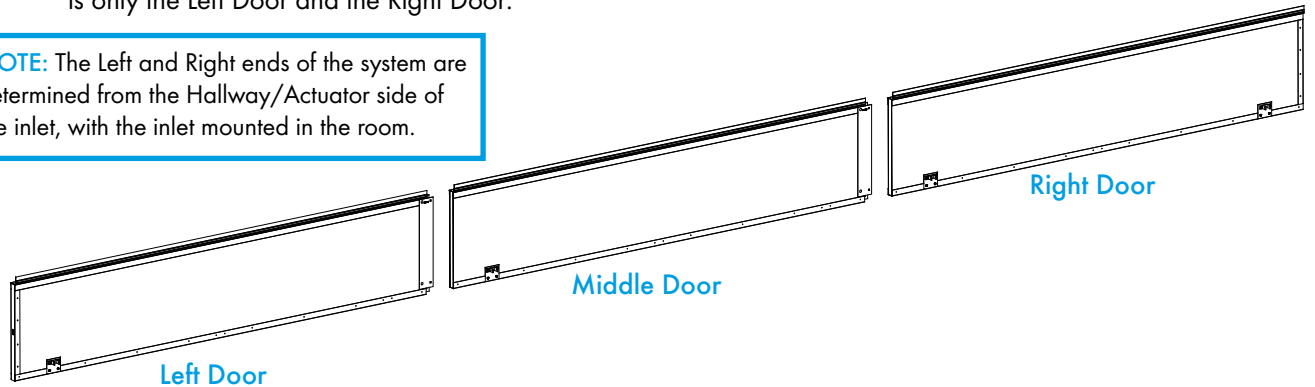

Figure 3
Each CSI24 Inlet system that is 30'L. or longer consists of (1) Left Door, (1 or more) Middle Doors and (1) Right Door. The number of Middle Doors depends on the length of the run of CSI24 Doors. For example, if the run of CSI24 Doors is 40'L. then there is (1) Left Door, (2) Middle Doors and (1) Right Door. If the run is 100'L. then there is (1) Left Door, (8) Middle Doors and (1) Right Door. In the next steps all the doors will be assembled before installing them to the framed openings. See Figure 3. If the run is only 20'L. then there is only the Left Door and the Right Door.